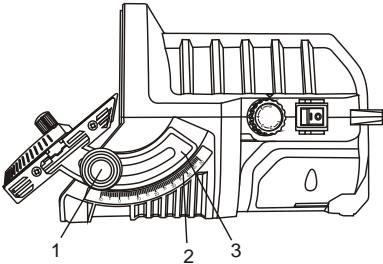

Fig. 7
1. Loosen the table angle adjustment knob (1) by turning it counter clockwise (Fig. 7). **NOTE:** If the adjustment knob does not loosen, hold the adjustment knob on the opposite side of the sanding table while loosening adjustment Knob (1).
2. When the sanding table adjustment knob is loose enough, rotate the table to your desired angle (2) is aligned with the indexing mark (3).